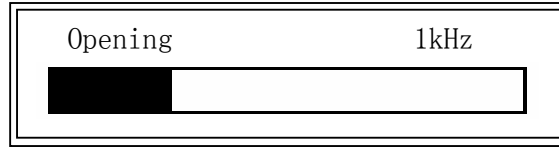

Figure 4-8. Open Correction Information
- 3) Press **OpSWP**. TH2817A will measure the open admittance (capacitance, and inductance) at all frequency points. Figure 4-8 shows the open correction information.